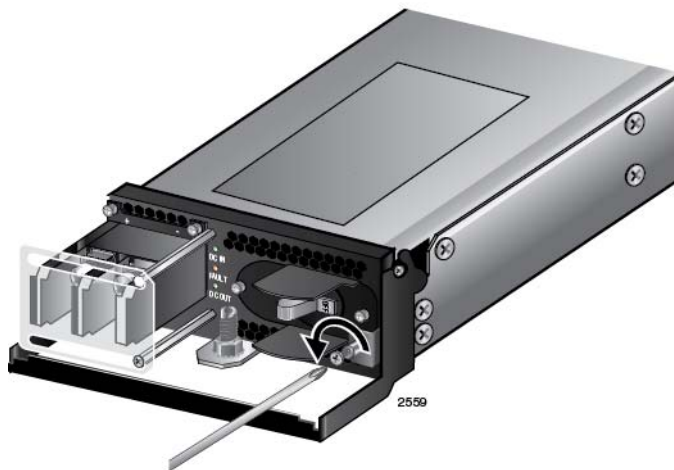

Figure 65. Loosening the Handle Locking Screw on the AT-SBxPWRSYS1 DC Power Supply
5. With a #2 Phillips-head screwdriver, loosen the handle locking screw on the power supply, as shown in Figure 65.